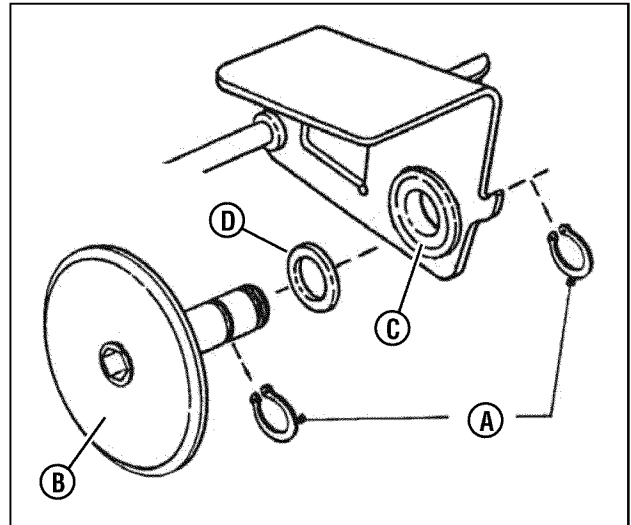

Figure 32: Replacing the driven disc
3. Remove the two snap rings (**A**, **Figure 32**) which secure the rubber driven disc (**B**) to the driven disc assembly.
2. Remove both snap rings (**A**, **Figure 32**) that secure the rubber driven disc (**B**) to the thrust plate.